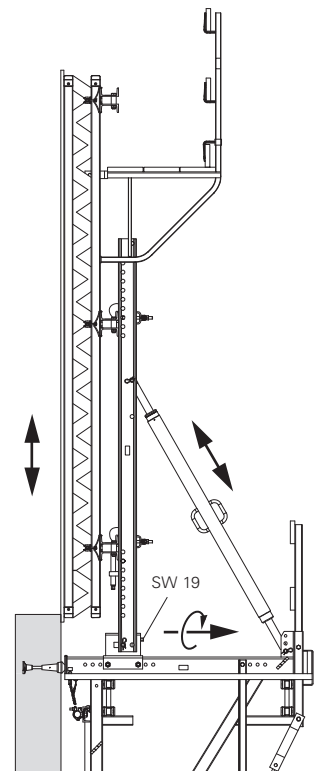

Fig. B2.05d
7. Move sliding block (2.1) in the adjusting unit with formwork to the wall, SW 19. (Fig. B2.05d)